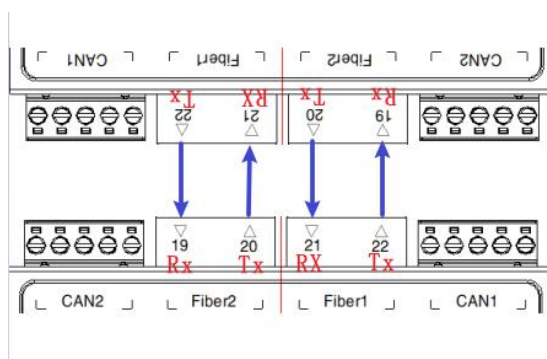

Figure 4. Connection of optical fiber
The two-channel optical fiber interface structure of T24CFA-2 is very simple. Each optical fiber interface has only two ports for optical fiber connection: one is the optical fiber output port (TX) and the other is the optical fiber input port (RX). As the optical fibers are point-to-point connected (several wires can't be tied together like twisted pair), each optical fiber interface of TB24CFA-2 has two connectors for connecting optical fibers, TX of optical fiber interface can only be connected to RX of another optical fiber interface through optical fiber. The specific connection method is shown in Figure 4.
TB24CFA-2 is connected to the PC through the RS232 interface to achieve the purpose of configuring or reading the bus status. Connect the TB24CFA-2 to the PC through the RS232 cable. The setting is completed by the special configuration program running on the PC, without any hardware jumpers or switch configuration, and the configuration will take effect immediately after the completion. This port uses a DB-9 female connector. Before connecting with the PC, use an RS232 extension cable to connect the TB24CFA-2 with the PC's serial port. If you use a crossover cable, you cannot communicate. The RS232 interface on TB24CFA-2 is shown in Figure 4: